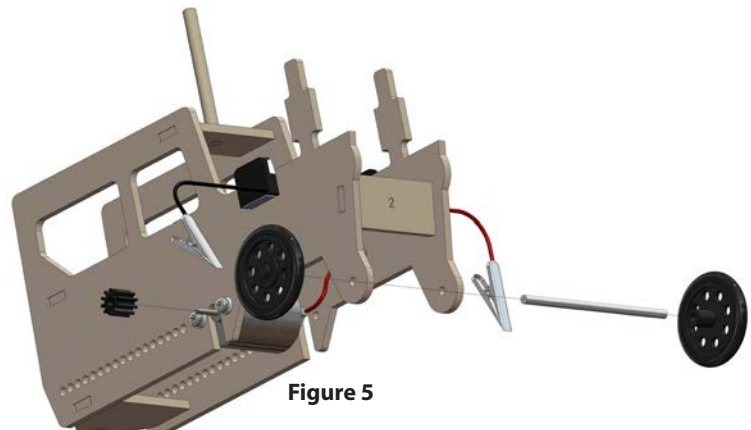

Figure 5
- Insert a 2-3/4" axle through the front hole in the tractor and push a small wheel on each end (Figure 5).
- Remove the 10T gear with a 2 mm hole from the gear font and place it on the end of the motor post (Figure 5).